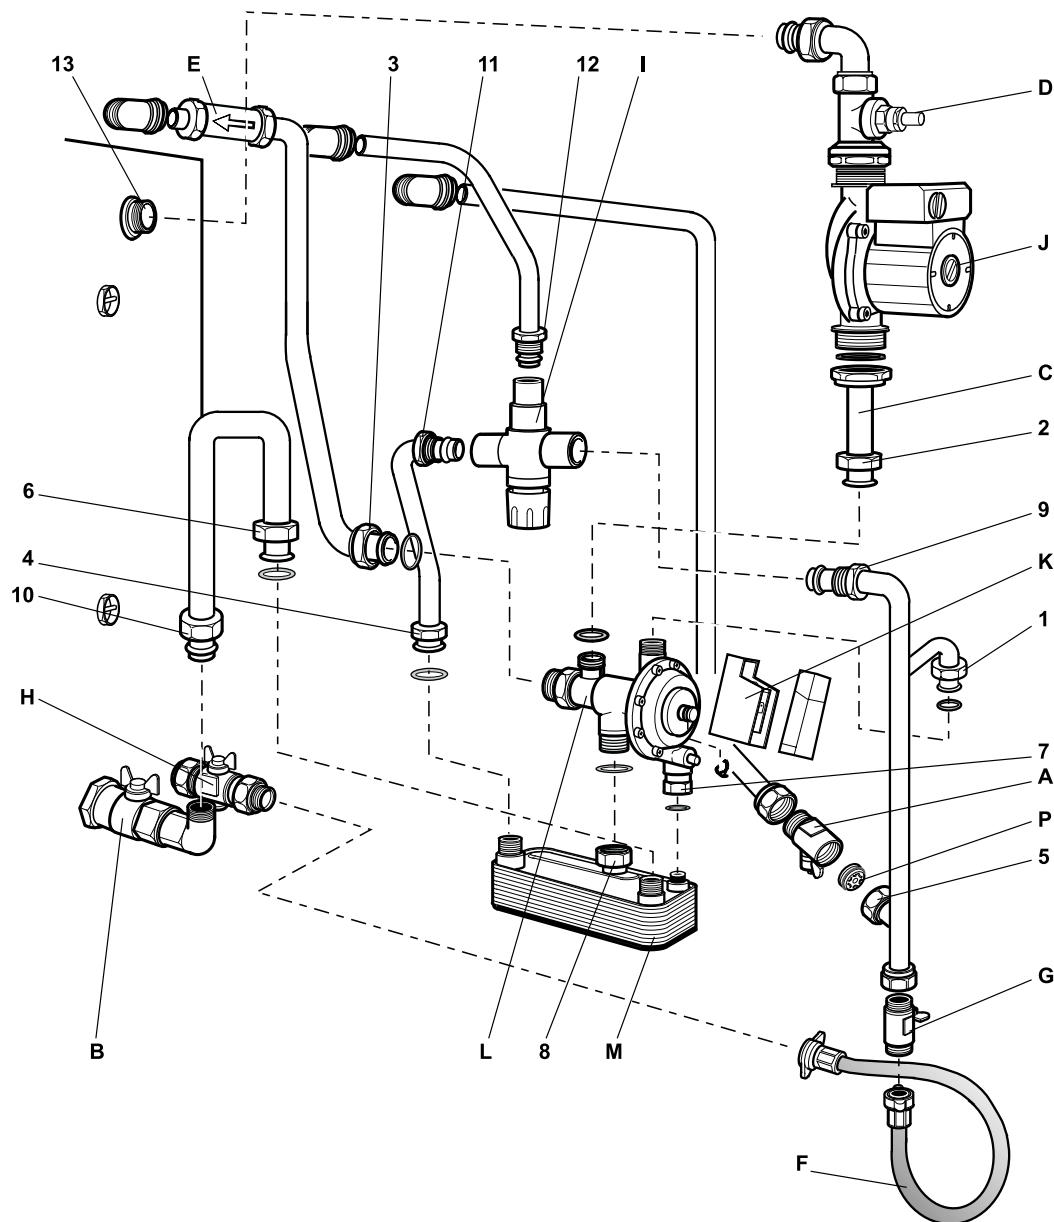

Fig. 39 - Combi 90 water components/connections
- 4 Working from the front of the boiler, if it is not possible to remove the front top casing panel (e.g. if the boiler is situated under a fixed worktop), disconnect the cold water inlet pipe at both the elbow connector in the top of the boiler, and at connection 5 on the cold inlet isolating valve (A), see Fig. 39.
- 4 Working from the front of the boiler, disconnect the cold water inlet pipe at both the elbow connector in the top of the boiler, and at connection 5 on cold water inlet isolating valve (A), see Fig. 39.
- 7 Unscrew and disconnect pipe union 3 from the rear of the diverter valve. See Fig. 39. Allow the pipe to rest on top of the plate heat exchanger.